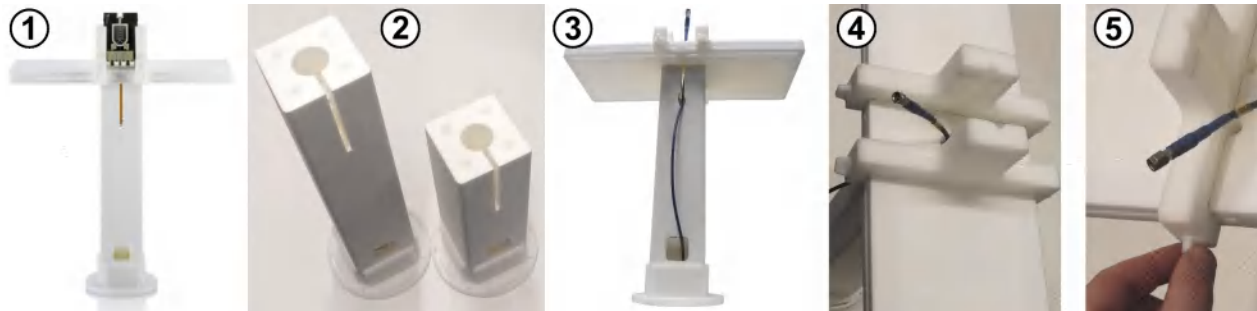

Figure 7-7: Rohacell DUT holder with table top and adjustable clamping fixtures
1. Loosen the 4 polymer screws of the adjustable fixtures (labeled 4 in Figure 7-7).
4. Lock the fixtures in position by tightening the screws finger-tight (5).